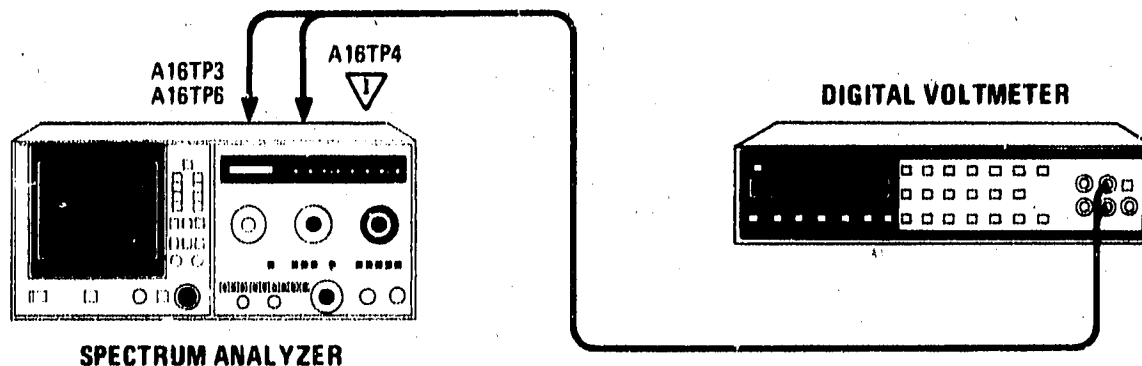

Figure 5-26. Sweep Generator Adjustment Test Setup, Voltage Measurements
2. Reconnect power cord, set LINE switch ON, and connect equipment as shown in Figure 5-26. Set all normal (green) settings, except as indicated, and other spectrum analyzer controls as follows: